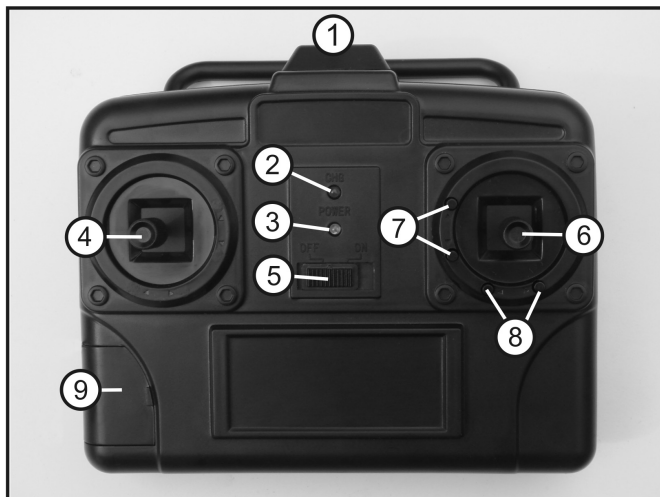

Figure 1
When new batteries are inserted, switch on the transmitter with the function switch (see figure 1, item 5) for test purposes. For this, push the function switch from the left switch position „OFF“ to the right switch position „ON“.
To indicate correct voltage supply, the green function control lamp lights up (see figure 1, item 3), and the transmitter issues a short signal.
When the receiver electronics in the model plane have an integrated protection circuit to prevent unintended start-up of the drive motor, you also need to make sure before any commissioning of the transmitter that the control lever for the motor function (see figure 1, item 4) is in the „Motor off“ position. For this purpose, the control stick must be pushed down completely or pulled towards you as far as possible.
The flight battery is charged with the remote control transmitter. For this, open the flap (1) on the front of the transmitter (also see figure 1, item 9), fold it to the left.
Then connect the flight battery (2) to the charging cable (3) in the battery chute. The plugs are protected against polarity reversal. Do not use any force when plugged in. Once the rechargeable battery has established contact, the red charging indicator lamp lights up (see figure 1, item 2) and signals correct charging.
The remote control transmitter has four trimming buttons (also see figure 1, items 7 and 8), with the help of which the middle position of the two control functions for elevator and rudder can be corrected.